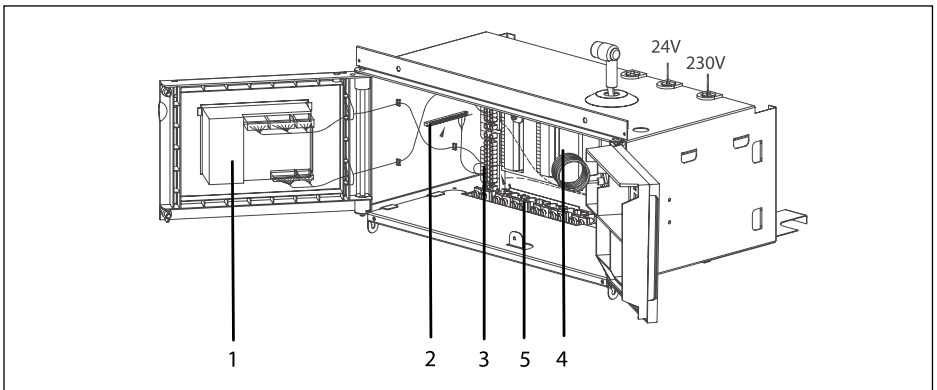
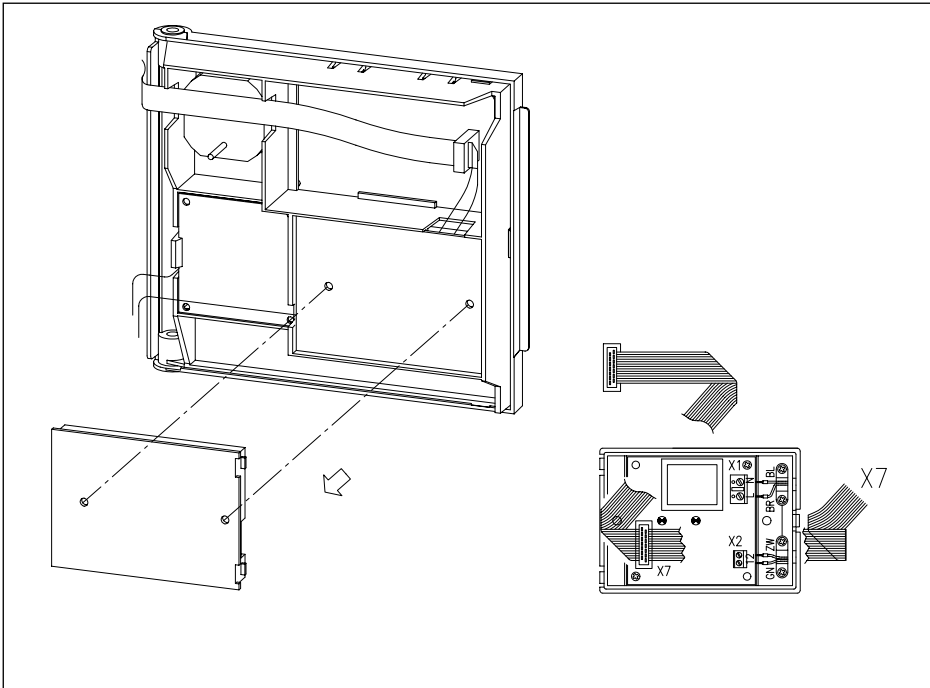

Fig. 15 Fitting 2945 C3 K controller
Fig. 16 Fitting the interface
To make full use of the boiler's modulating feature, an **OpenTherm®** or a **rematic®** control can be connected. These controls will provide optimised time and weather compensation to achieve maximum efficiency and minimum boiler cycling whilst maintaining design condition within the building. An optional **OpenTherm®** or **rematic®** interface must be integrated in the boiler, (to fit see Fig. 16).
- **2945 C3 K** - Optimising / weather-compensated boiler control for multiple boilers. These controls are supplied with outside sensor, room sensor, flow sensor (used for multiple boiler installation only) mounting and wiring kit for installation in the boiler, see Fig. 15. Communication between the Optimising / weather-compensated control and the boiler control system is via an interface PCB supplied with the kit (to fit see Fig. 16). Set the  $\boxed{X}$  value of the boiler control operation parameter ( $\boxed{R_1}$ ) to  $\boxed{1}$ .